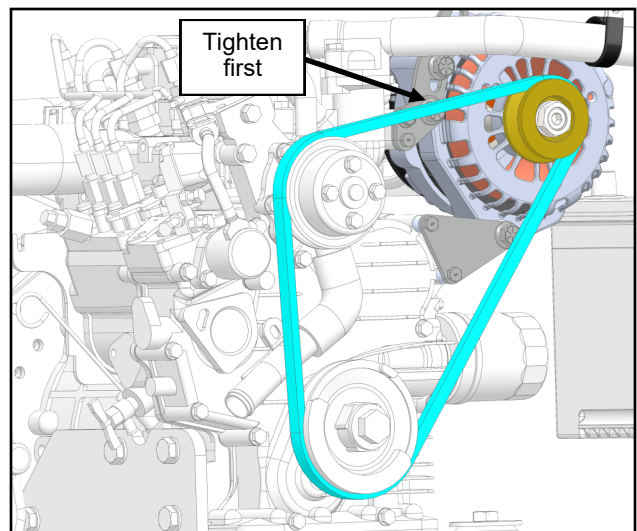

Fig. 3.9 (V-Belt Installation)
- 3.9 Install the new V-belt included with the A/C kit onto the engine and alternator per figure 3.9. Tension the V-belt and tighten the upper 3/8" bolt and nut, then tighten the other two 3/8" bolts and nuts.